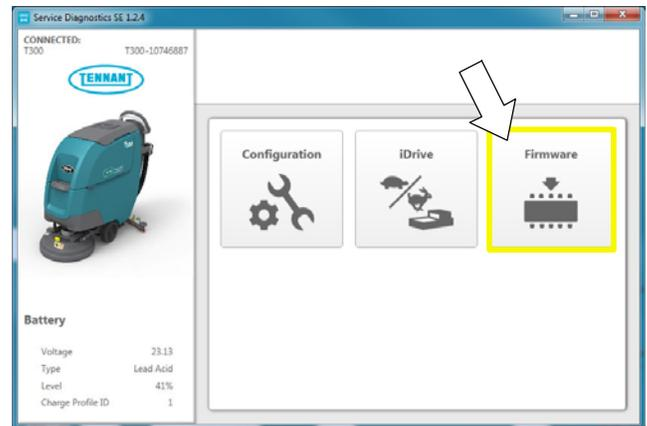

Fig. 34
5. Once connected, the home screen will appear (Figure 34). If firmware updates are required, the “Firmware” button will be highlighted in yellow as shown. Press the button to update the machine's firmware.